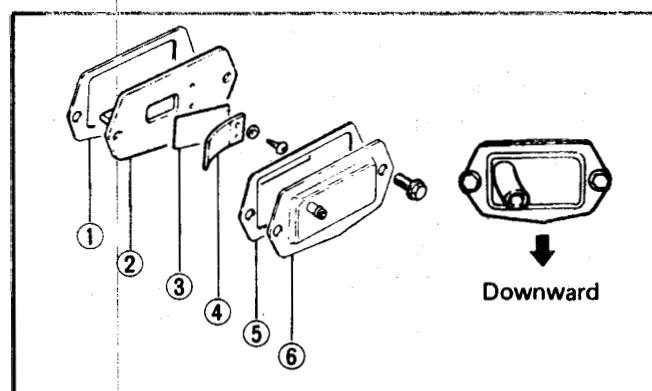

Figure 119
35. Continue engine reassembly by installing the breather assembly. Make sure the parts are assembled as shown in Figure 119. Incorrect assembly will result in a breather that leaks oil. The projection on the outside cover always points down. See Figure 119.